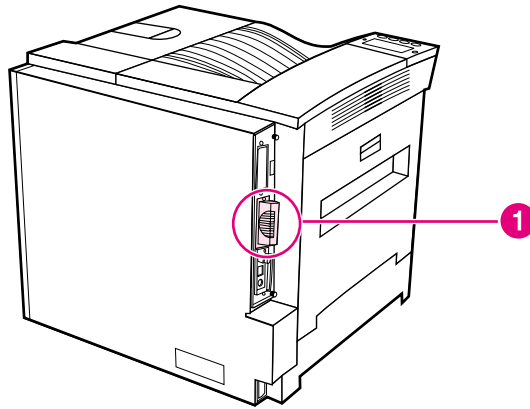

Figure 6-2 **Disk Drive**
- 2 Loosen the 2 captive screws, and remove the disk drive from slot #2 (figure 6-2, callout 1).
- 2 Install the disk drive in slot #2 (figure 6-2, callout 1), and tighten the 2 captive screws.